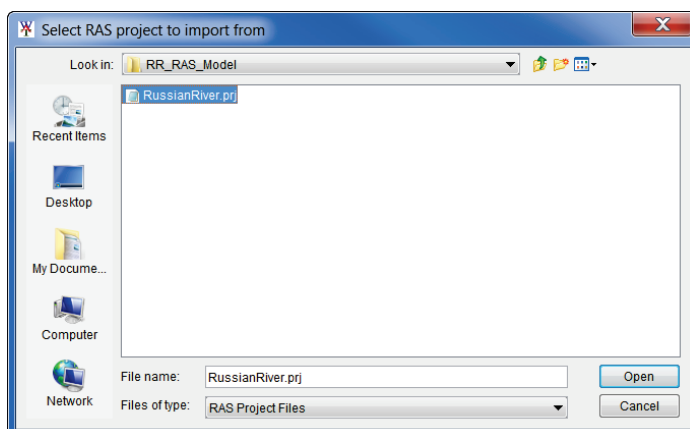

**Figure 8.9** Convert HEC-HMS Project Window
4. If the HEC-HMS model was created using a previous version of HEC-HMS, a **Convert HEC-HMS Project** window (Figure 8.9) will open. This window is letting the user know that the HEC-HMS model will be converted to a Version 4.2.1 HEC-HMS model. Click **Convert Project**, the **Convert HEC-HMS Project** window (Figure 8.9) will close, and the import of the HEC-HMS model will continue.
6. If the HEC-HMS model was created using a previous version of HEC-HMS, a **Convert HEC-HMS Project** window (Figure 8.9) will open. This window is letting the user know that the HEC-HMS model will be converted to a Version 4.2.1 HEC-HMS model. Click **Convert Project**, the **Convert HEC-HMS Project** window (Figure 8.9) will close, and the import of the watershed will continue.